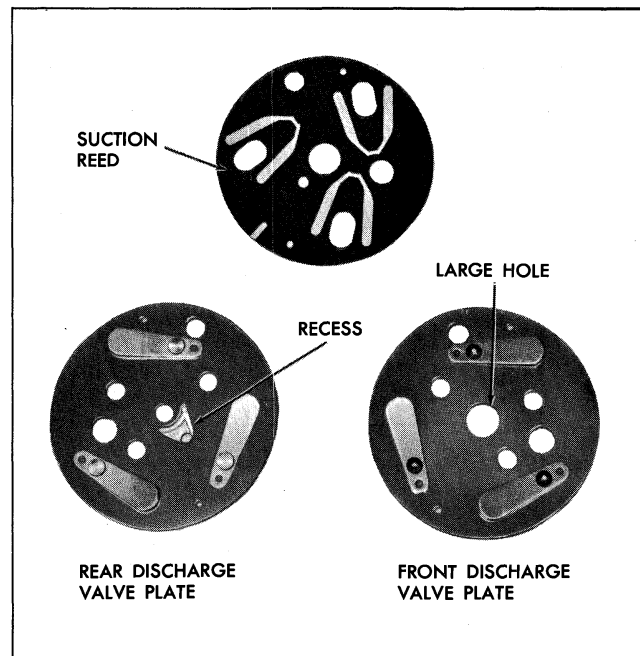

Fig. 5-32 Identification of Front and Rear Discharge Valve Plate
NOTE: The front discharge valve plate has a large diameter hole in the center (Fig. 5-32).
8. Apply an ample amount of clean 525 viscosity Frigidaire oil around angle groove at the lower edge of casting. Coat large diameter head to shell "O" ring and assemble "O" ring on shoulder of shell (at front) (Fig. 5-32).